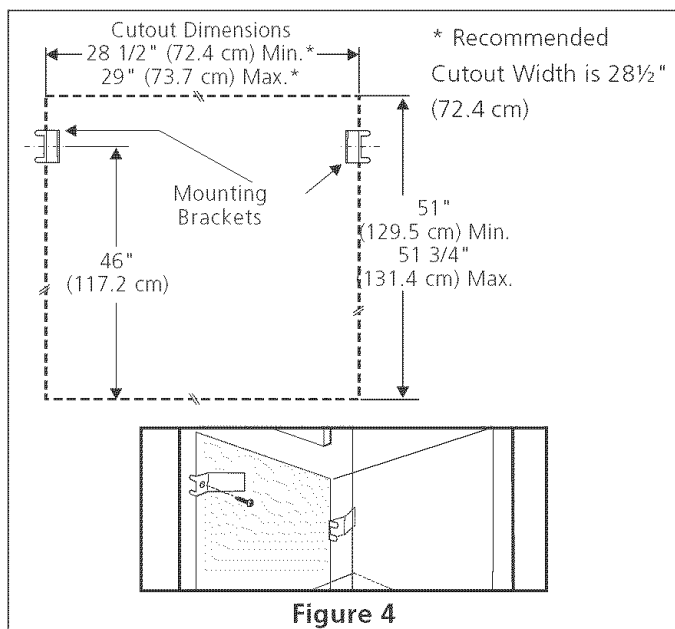

Figure 4
2. Install the mounting bracket in the cabinet as shown on figure 4. **Note:** To prevent damage to cabinet, it is recommended to drill 1/16" (0.16 cm) dia. pilot holes before installing the mounting brackets.